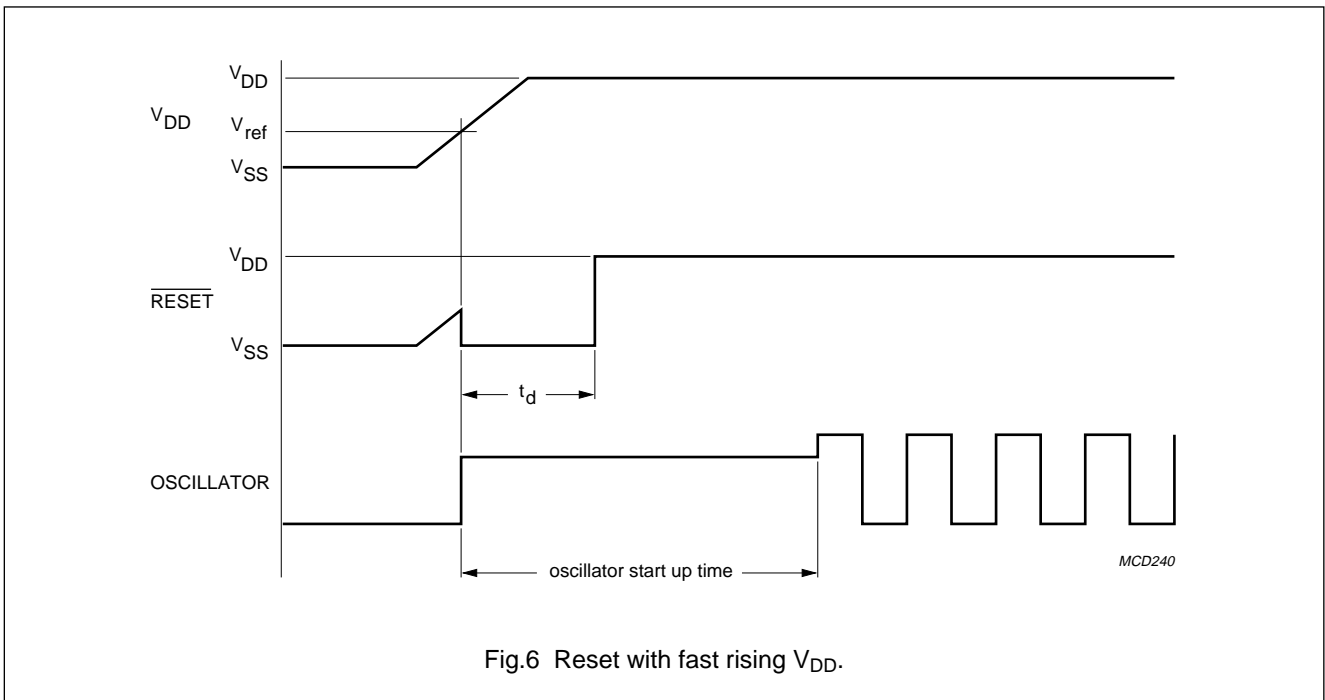

Fig.6 Reset with fast rising V_{DD}.
- If the V_{DD} rises above the minimum operation voltage before time period t_d is exceeded, no external components are necessary (see Fig.6).